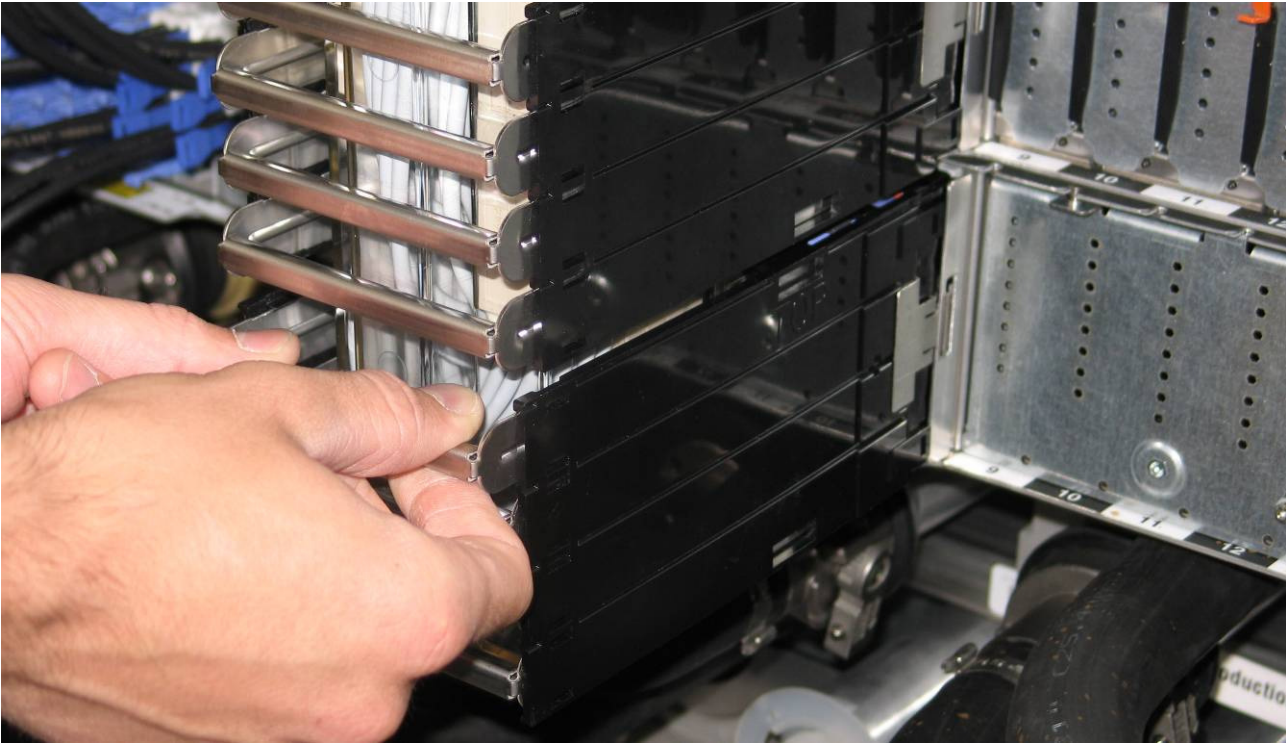

Figure 10 Pulling out handles
STEP 10 Pull out each of the 16 handles by ~10 mm to “unclick” each of the 12 MPO connectors per handle (see Figure 10 for how to hold the handles while pulling them out.).